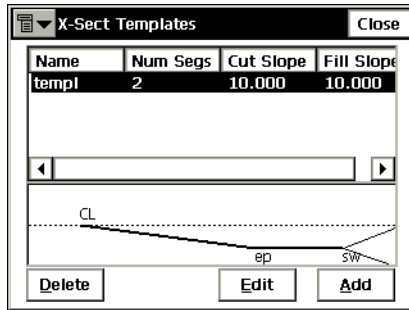

Figure 4-26. X-sect Templates
1. To create a cross-section, tap the Add button in the *X-Sect Templates* screen (Figure 4-26).